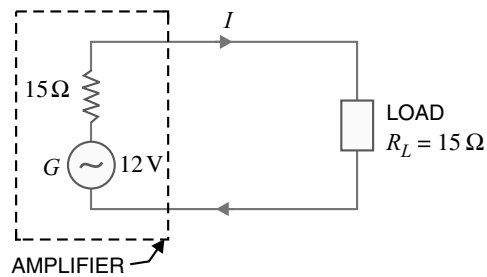

Fig. 1.24
**Solution.** In order to produce maximum power, the load (*e.g.* a speaker) should have a resistance of  $15 \Omega$  to match the amplifier. The equivalent circuit is shown in Fig. 1.24.